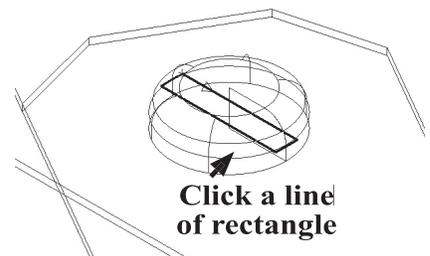

Fig. 58
Step 5. Click a line of the thin rectangle, **Fig.58**.